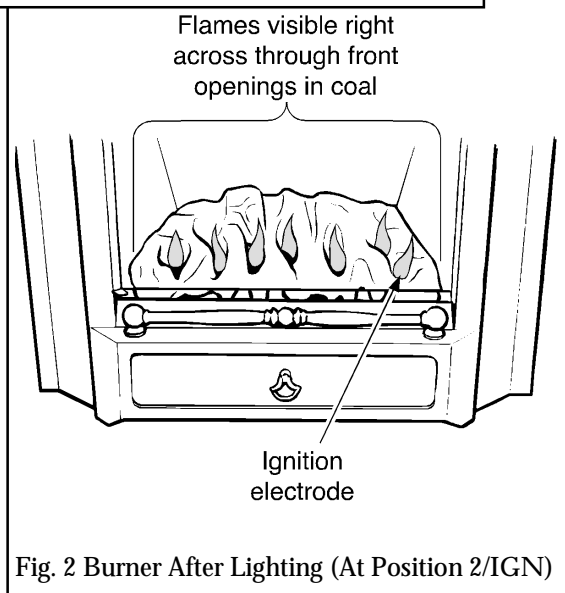

Fig. 2 Burner After Lighting (At Position 2/IGN)
2. Keep the knob depressed for a few seconds then, while keeping the knob depressed, turn slowly to position 2/IGN. If the control knob is inadvertently released before turning to 2/IGN, turn back to OFF and start again. The main burner should light at low setting and the decorative flame burner should ignite (see Fig. 2).